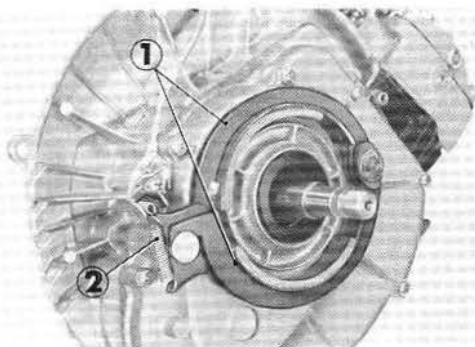

Fig. 2-35 ① Rear brake shoe
④ Primary drive sprocket ⑤ Primary driven sprocket
2. Remove rear brake shoes (Fig. 2-35)